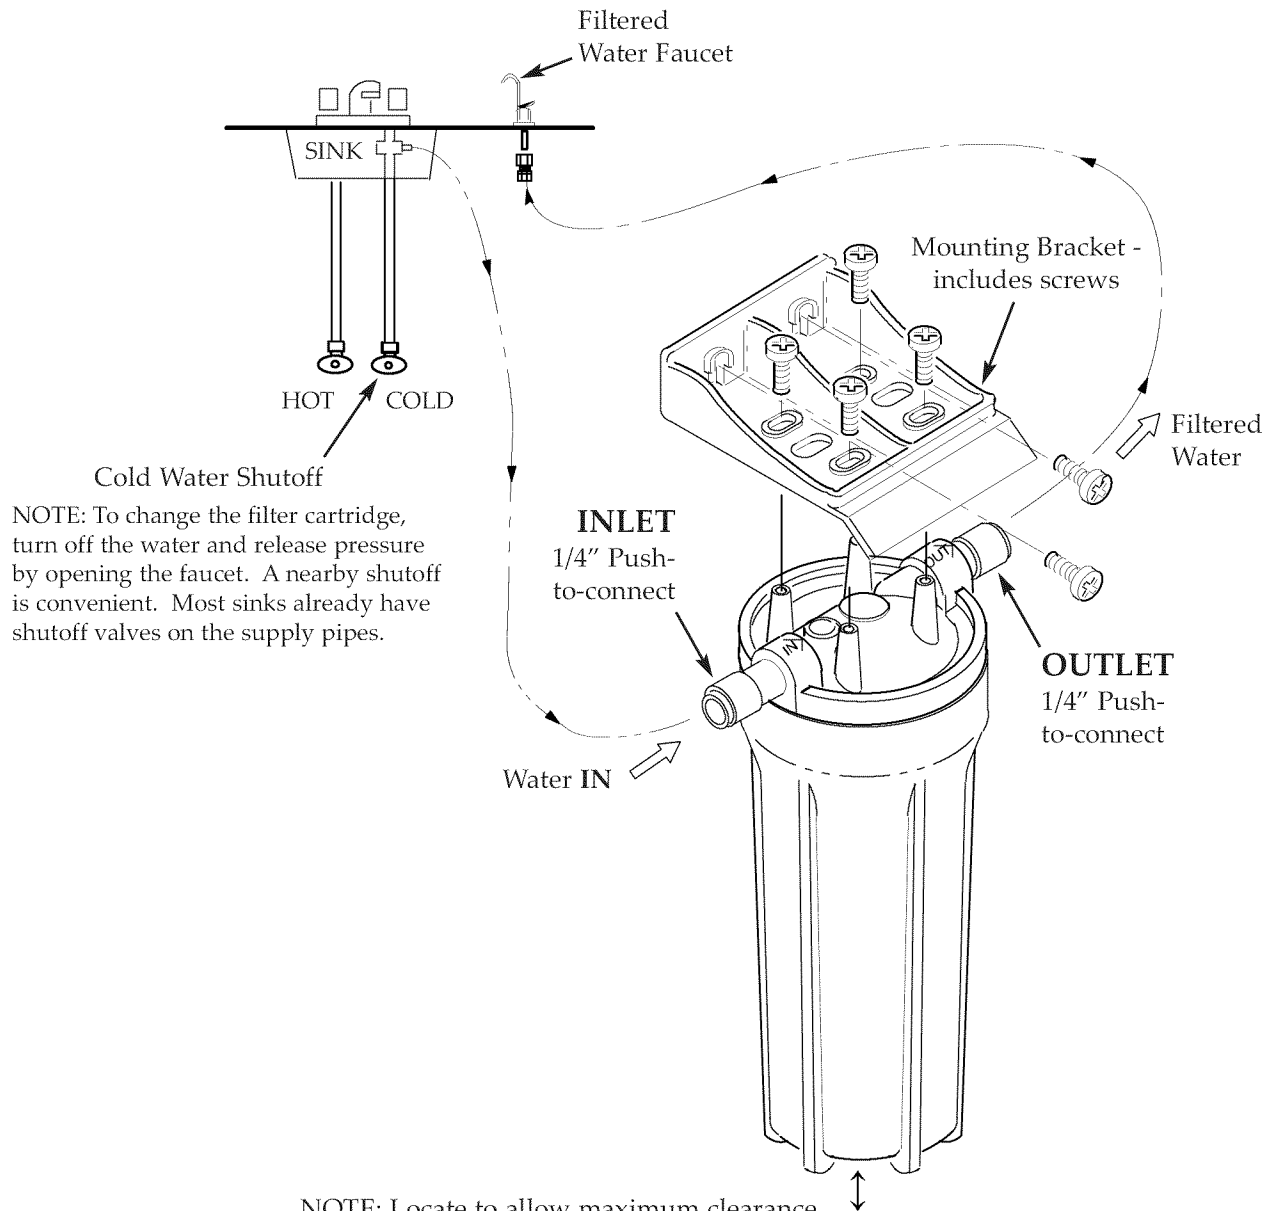

Figure 1
1. Allowing some slack, measure and cut a length of 1/4" tubing to connect between the supply fitting and the filter system inlet (See Figure 1). Use a sharp cutter or knife to cut the end of tubing square.